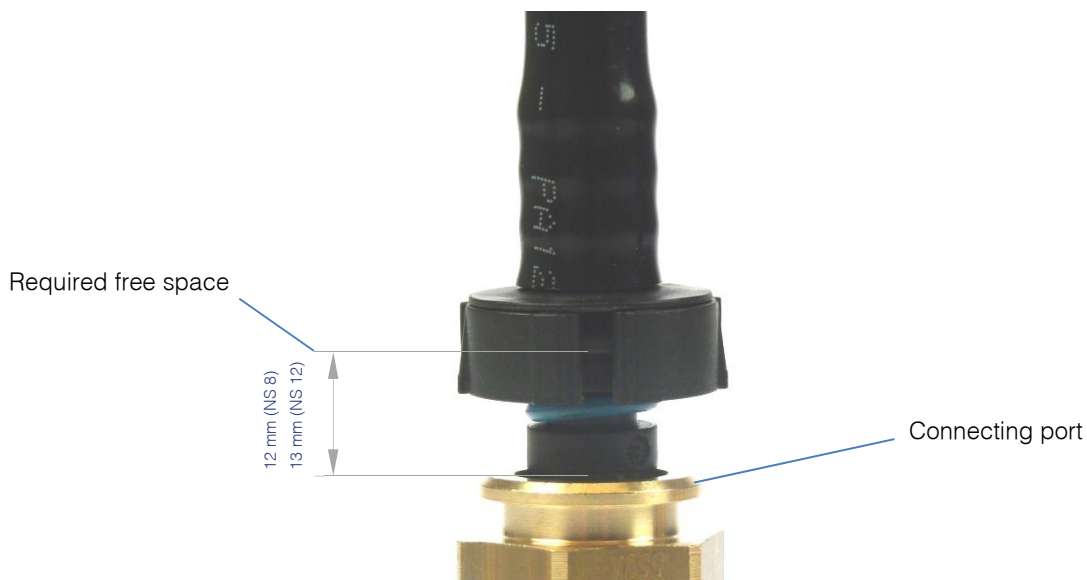

Fig. 32: Required free space for inserting VOSS quick connect system 246 NX
- ! Lines must be sufficiently flexible to guarantee the required minimum free space (fig. 32) for VOSS quick connect system 246 NX above the connecting port.